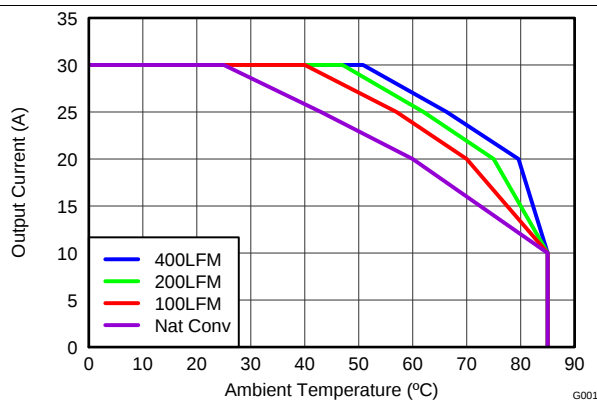
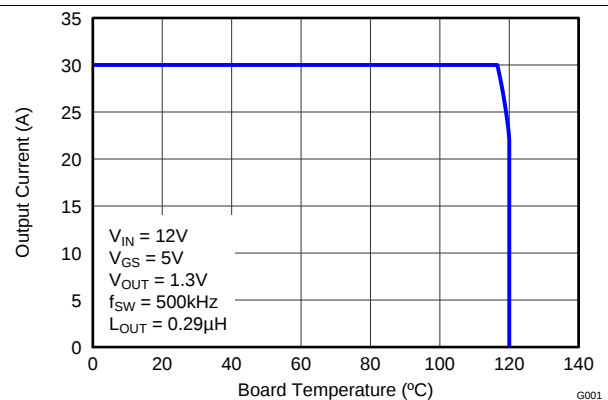

Figure 3. Safe Operating Area – PCB Horizontal Mount
Figure 4. Typical Safe Operating Area
$T_j = 125^{\circ}\text{C}$, unless stated otherwise. For Figure 3 and Figure 4, the Typical Power Block System Characteristic curves are based on measurements made on a PCB design with dimensions of 4.0 inches (W) × 3.5 inches (L) × 0.062 inch (H) and 6 copper layers of 1 oz. copper thickness. See Application and Implementation for detailed explanation.
$T_J = 125^\circ\text{C}$, unless stated otherwise. For Figure 3 and Figure 4, the Typical Power Block System Characteristic curves are based on measurements made on a PCB design with dimensions of 4.0 inches (W) $\times$ 3.5 inches (L) $\times$ 0.062 inch (H) and 6 copper layers of 1 oz. copper thickness. See Application and Implementation for detailed explanation.
The SOA curves in the CSD87384M data sheet provide guidance on the temperature boundaries within an operating system by incorporating the thermal resistance and system power loss. Figure 3 to Figure 4 outline the temperature and airflow conditions required for a given load current. The area under the curve dictates the safe operating area. All the curves are based on measurements made on a PCB design with dimensions of 4 inches (W) × 3.5 inches (L) × 0.062 inch (T) and 6 copper layers of 1 oz. copper thickness.